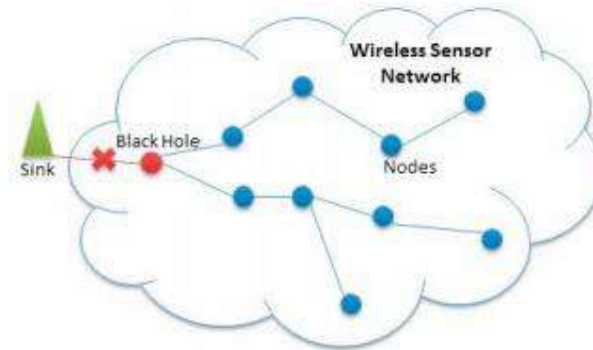

Figure 4.3 Black Hole Attack
- There are basically two categories of cryptographic mechanisms: asymmetric and symmetric. In asymmetric mechanisms (e.g. RSA), the keys used for encryption and decryption are different, allowing for easier key distribution. It usually requires a third trusted party called Certificate Authority (CA) to distribute and check certificates so that the identity of the users using a certain key can be verified. However, due to the lack of a priori trust relationship and infrastructure support, it is infeasible to have CAs in WSNs.
- The Fig. 4.3 illustrates the Black hole attack: while the source node A broadcasts an RREQ messages to discover the route for sending packets to destination node C. An RREQ broadcast from node A is received by neighbouring nodes B, D and the malicious node E. The RREP message sent by the malicious attacker node E is the first message reaching the source node. This last updates its routing table for the new route to the intended node destination, discarding any RREP message from other neighbouring nodes including the actual node destination and starts sending the buffered data packets immediately. In the same time the Black hole node drops all coming data packets rather than forwarding.